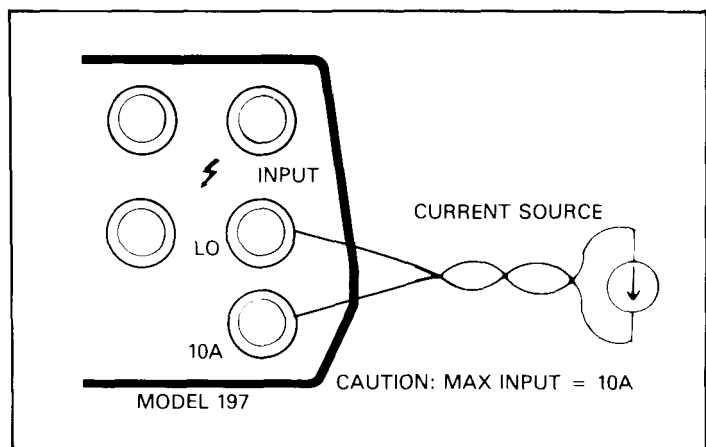

Figure 2-7. Current Measurements Between 2000mA and 20A
- A. Connect the test leads to the 10A and LO terminals of the Model 197. Refer to Figure 2-7.
The test leads used must be rated to handle 20A. Twist the wires as shown in Figure 2-7 to help in minimizing external fields which could affect the Model 197 or other equipment. Also, keep the test leads as short as possible to minimize voltage drop.
- D. Connect the test leads to the current source as shown in Figure 2-7 and take the reading from the display.